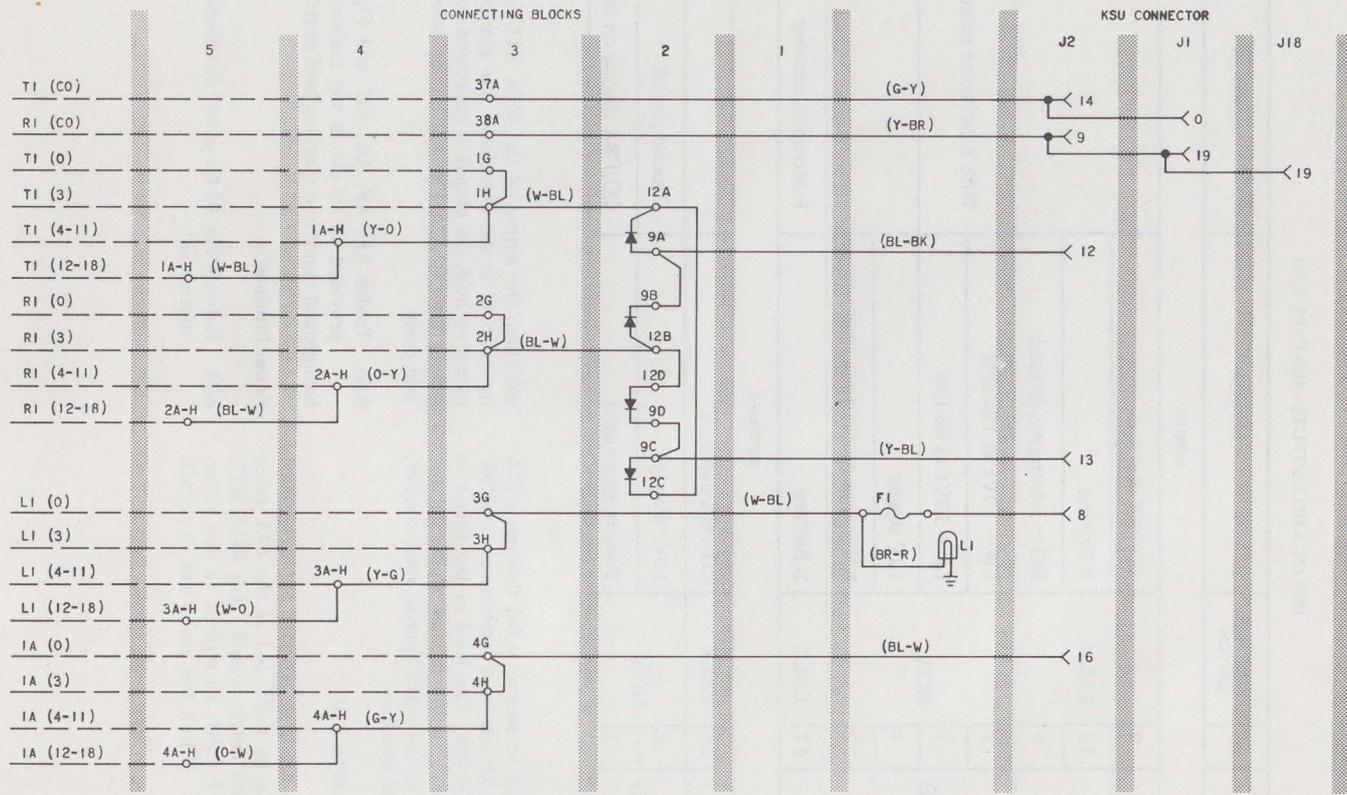

Fig. 50—First Line Circuit
6.05 Tables N, O, P, and Fig. 50 through 56 are provided as an aid for maintenance of the CO line circuits.